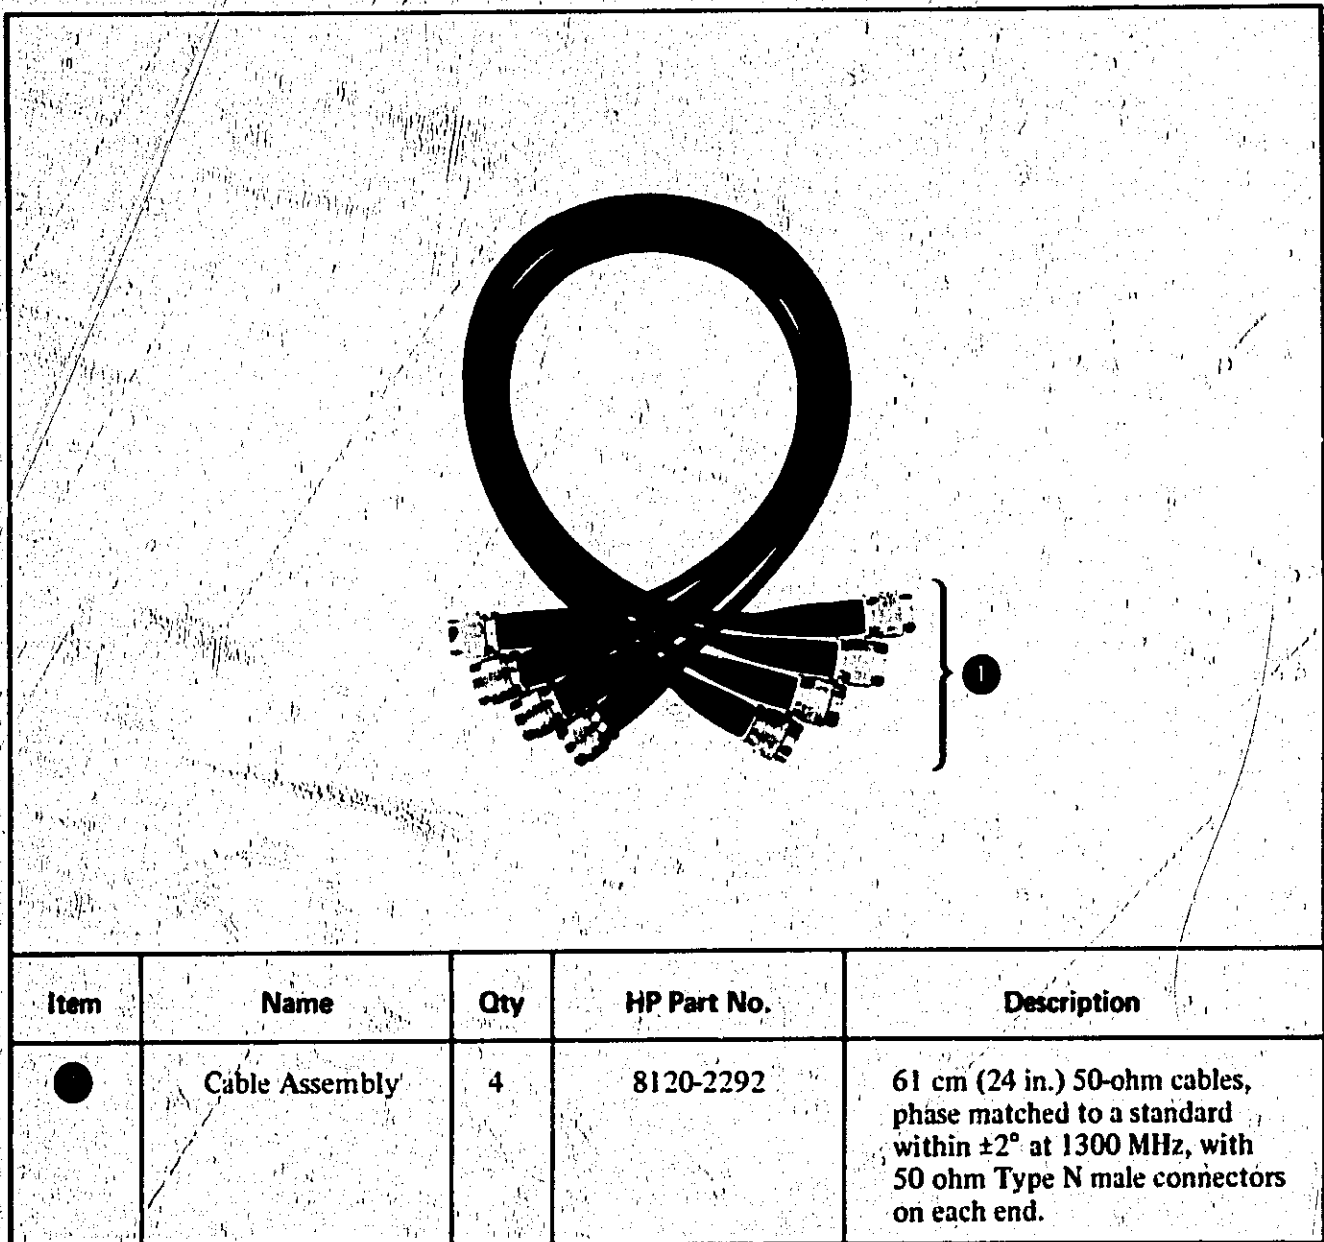

Figure 3. HP Model 11851A Cable Accessory Set
13. Hewlett-Packard Cable Accessory Set 11851A, shown in Figure 3, contains four double-shielded and phase-matched cables for high accuracy measurements with the HP Model 8505A Network Analyzer and other instruments.